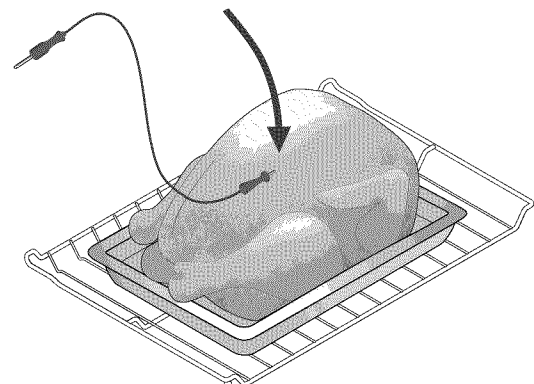

Figure 3: probe into the thickest part of the breast
- For whole poultry or turkey, fully insert the probe into the thickest part of the breast. (see figure 3).